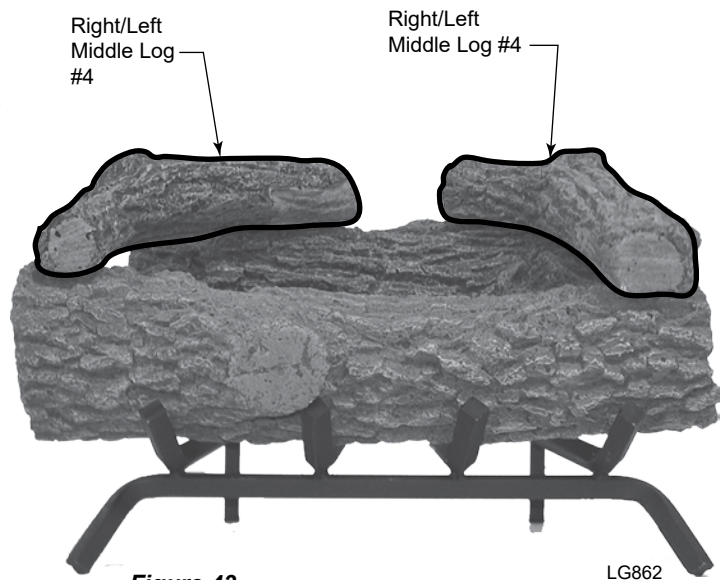

**Figure 44 -
5. Rest Top Right/Left Log #7 on Log #4 and Log #1. *Figure 44*
6. Rest Top Right/Left Log #7 on Log #4 and Log #1. *Figure 44*